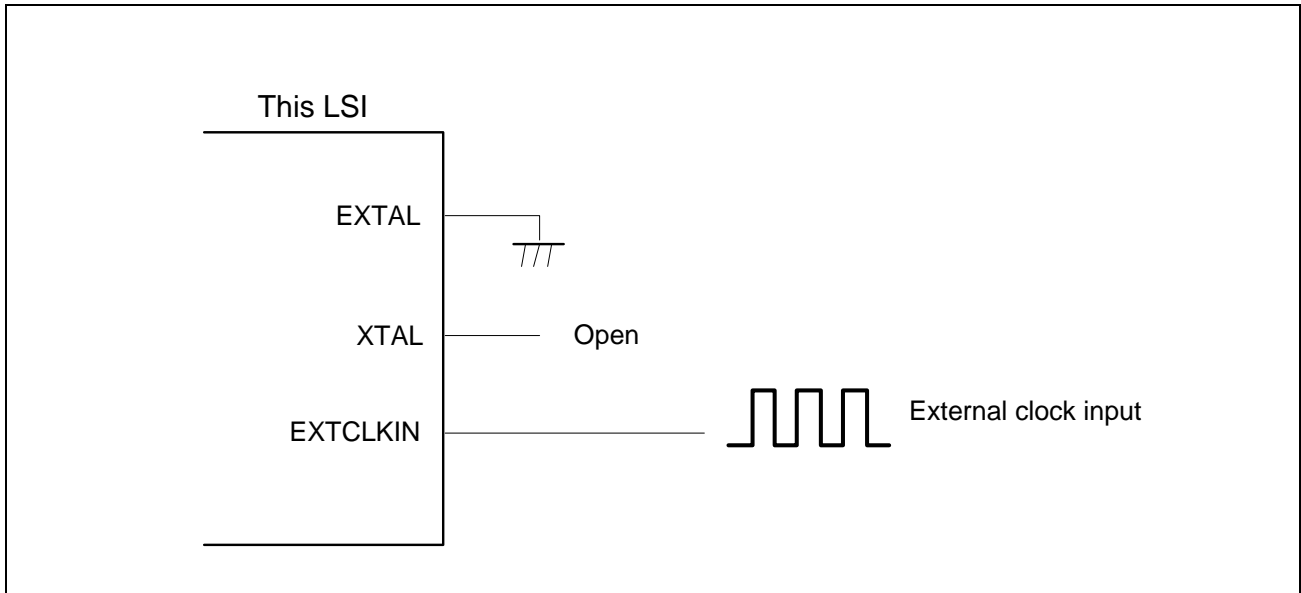

Figure 3.1 Example of external clock connection
**Figure 3.1** shows an example of connection of external clock input. Connect EXTAL to VSS via a resistor and leave XTAL open. If a crystal oscillator is used, it should be placed as close as possible to the EXTCLKIN pin. The GND traces used for shielding should be at least 0.3 mm wide and there should be a space of 0.3 mm to 2.0 mm between them and adjacent traces.